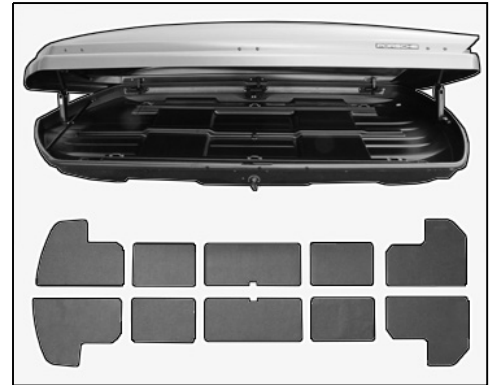

Figure 8
- 6.6.3 Position floor mats in roof box 320 as shown in Figure 8.